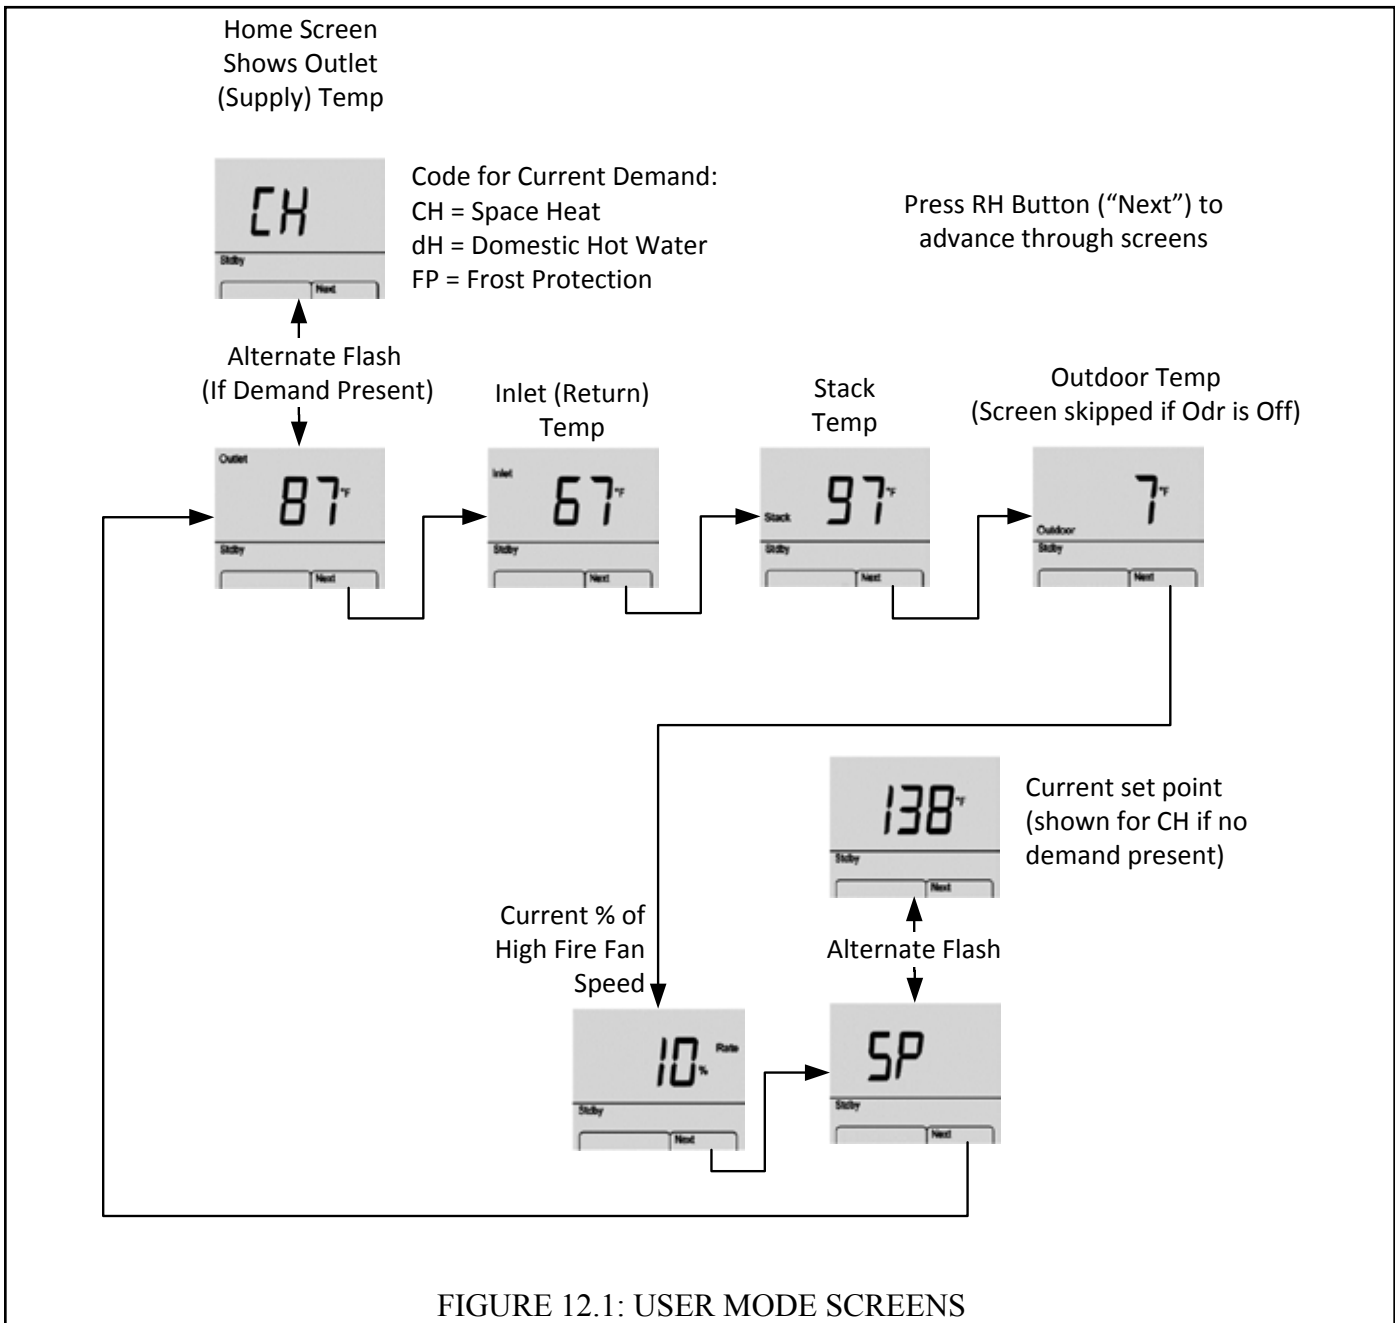

FIGURE 12.1: USER MODE SCREENS
- 1) **User Mode** - This is the default mode of operation for the control. By default, the display shows the home screen shown in Figure 12.0. By pressing the LH or RH buttons at the bottom of the screen, it is possible to navigate to other User Mode screens. See Figure 12.1 for a description of all User Mode screens.